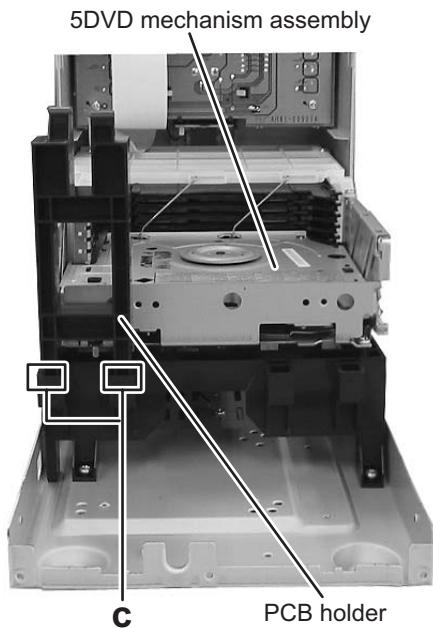

Fig.8
(See Fig.8 to 11)
- (1) From the top side of the main body, release the two claws **c** and remove the PCB holder from the 5DVD mechanism assembly. (See Fig.8)